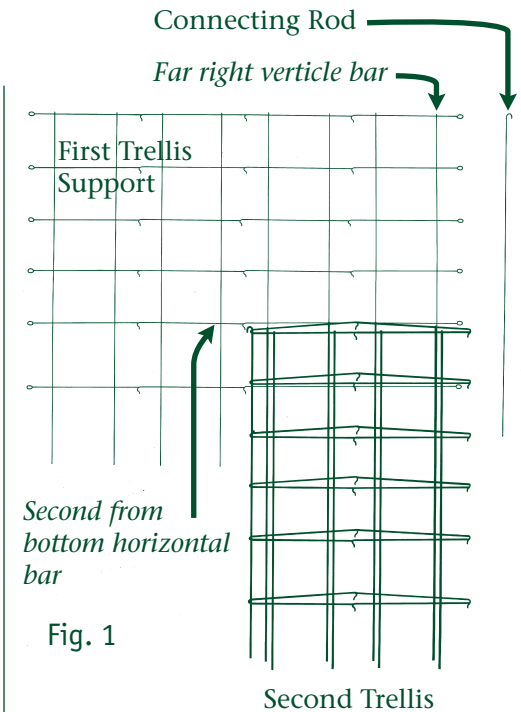

Fig. 1
2. Remove the Connecting Rod from one of the Trellis Supports. The Connecting Rod should easily slide in and out of the loops along the edge of the Support. After removing the Rod, open the support and lay it flat on the ground, with the extended legs positioned at the bottom as shown in Fig.1.
4. **Carefully follow Figure 1 for this step. Figure 1 shows the area where the second Support is to be placed on top of the first Trellis Support.** With the Connecting Rod positioned on the left and the legs positioned downward, lay the second support on top of the first Support. Position the second Support so that the top bar lies just below the second from bottom bar of the first Support. Also make sure the far right vertical bar of the second Support lies just outside the far right vertical bar of the first Support.